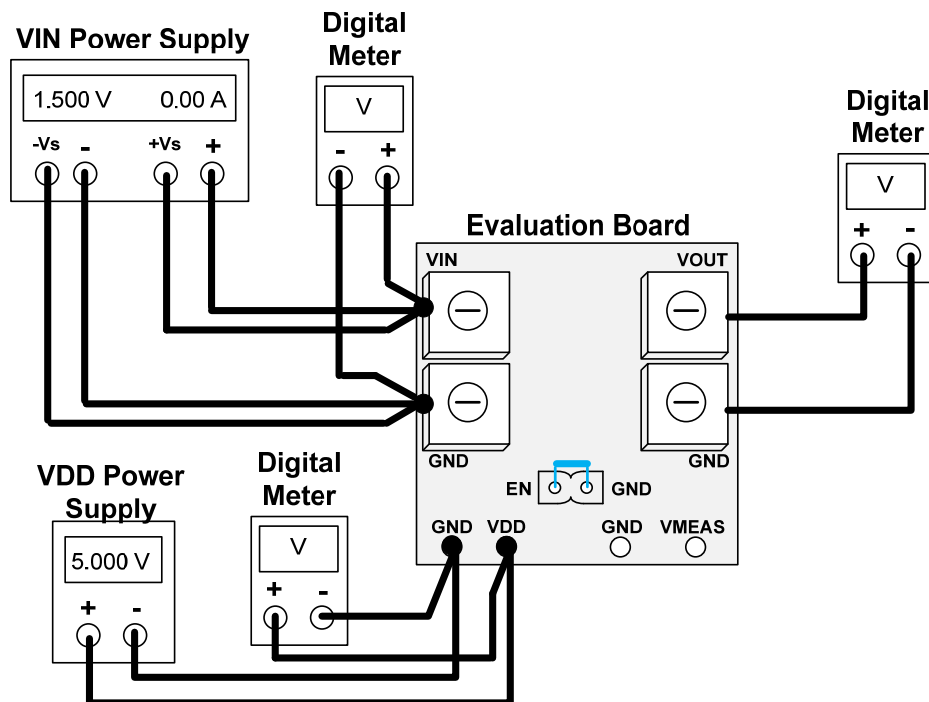

Figure 2. Evaluation Board Setup for ENABLE Function Test
2. Connect the evaluation board as shown in Figure 2 below (**except for the jumper in blue**).
6. Attach the jumper connecting EN and GND, as shown in **blue** in Figure 2.